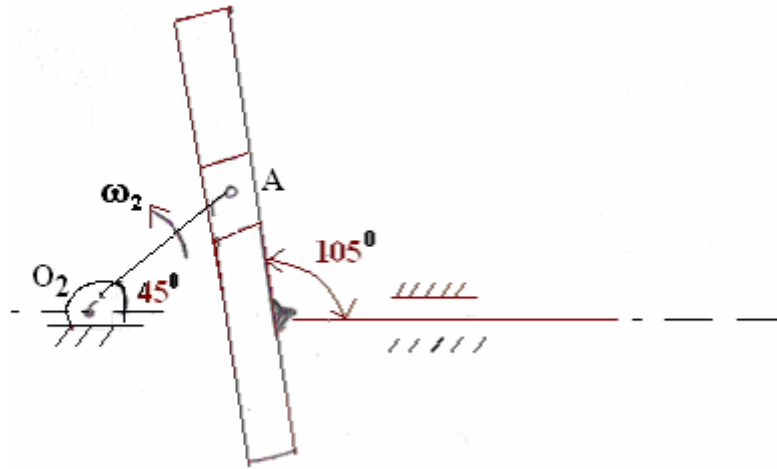

Figure 6
6. The figure 6 show a variation of the Scotch-yoke mechanism. It is driven by crank 2 at $\omega_2 = 36$ rad/s ccw. Find the velocity of the crosshead. Link 4. Use instant centre method. $O_2A = 250$ mm. [16]